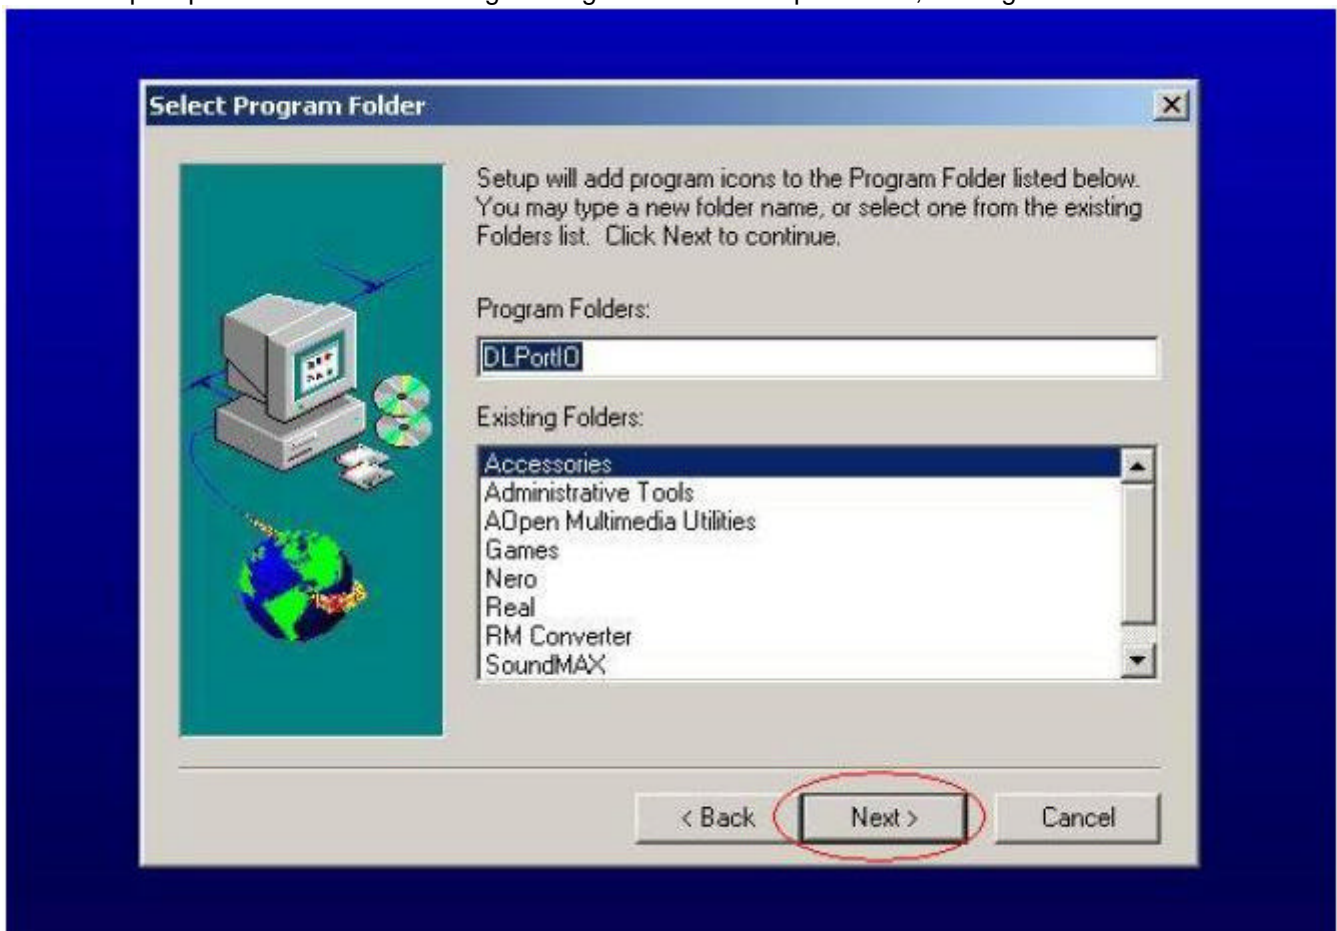

Fig. 0.4
0.4 Keep on press " Next " 4 times to go through the installation processes, see Fig. 0.4